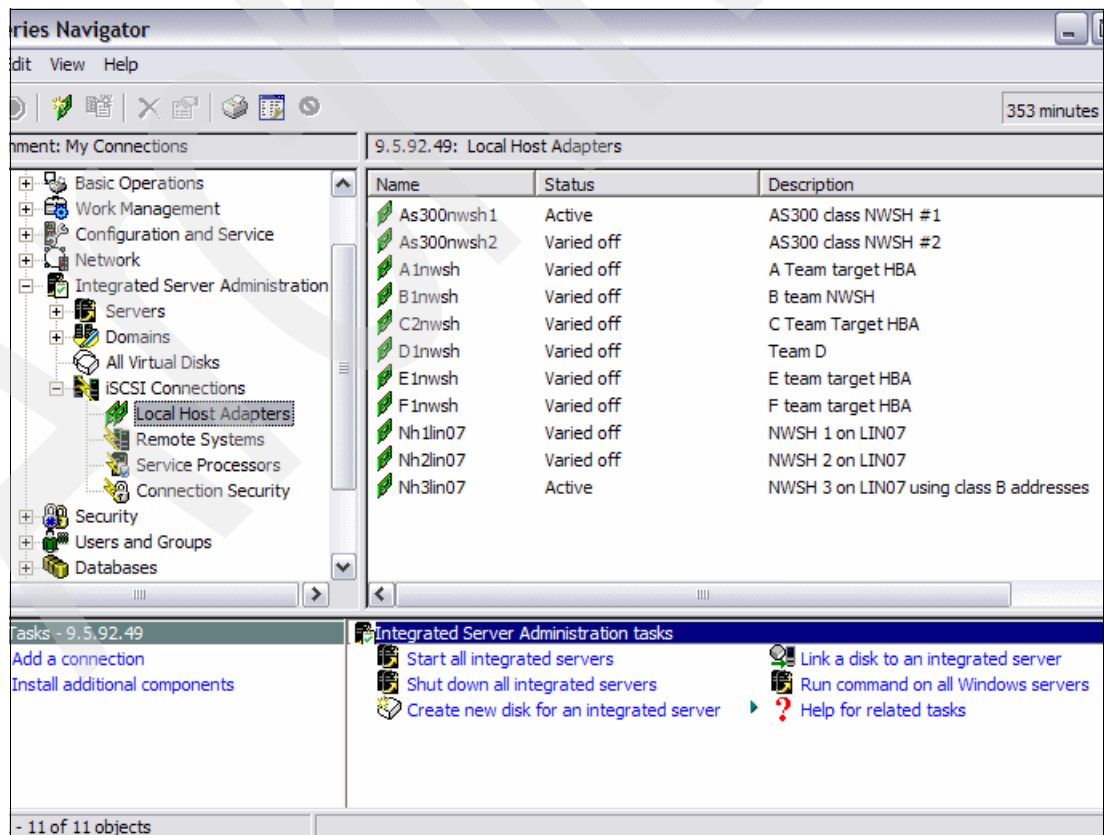

Figure 4-13 Select Local Host Adapter
5. Expand **Integrated Server Administration** → **iSCSI Connections** → **Select Local Host Adapters** (Figure 4-13).